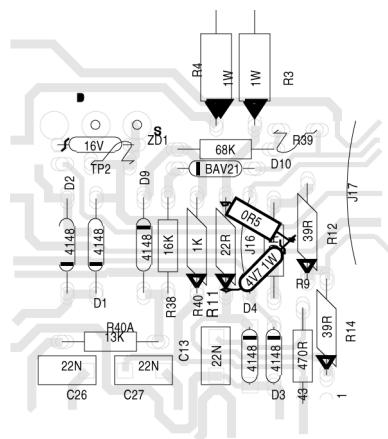

Figure 1
3. Measure and remove any of the diodes coloured BLUE on the assembly drawing that may be damaged. Replace a 1N4732A 1W 4V7 zener (#6459) {These components already exist on version 9 and higher, add only in versions 9 and lower.] that may have been added to the component side of the board along with a series 0.5 ohm resistor. Refer to figure 1.